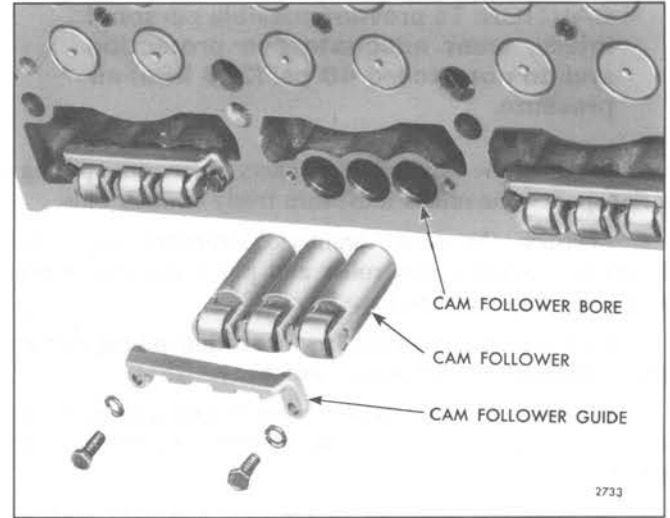

Fig. 4 – Cam Followers and Guide
1. Rest the cylinder head on its side and remove the cam follower guide (Fig. 4).